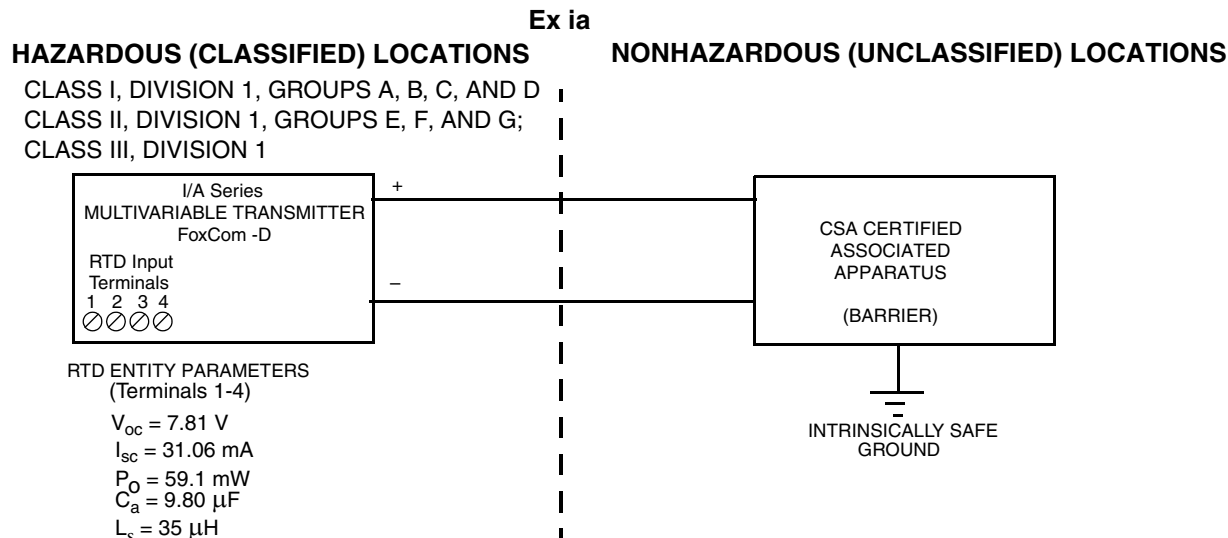

Figure 11. Divisions Loop Diagram for FoxCom IMV Transmitters With CSA Certified Zener Barriers
1. Figure 11 and/or Table 4 must **not** be modified without prior CSA approval.